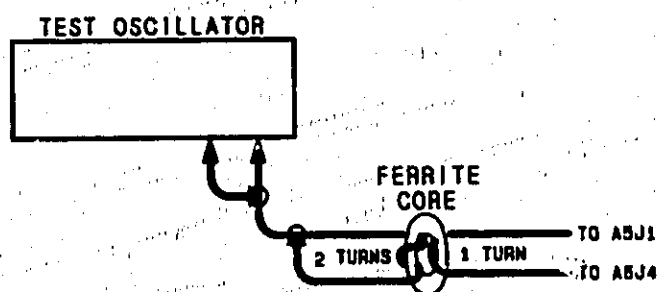

Figure 5-5. Ferrite Coupling Transformer Circuit
16. Set the test oscillator to a 100 kHz sine wave and connect it to A5 via the ferrite transformer shown in Figure 5-5.